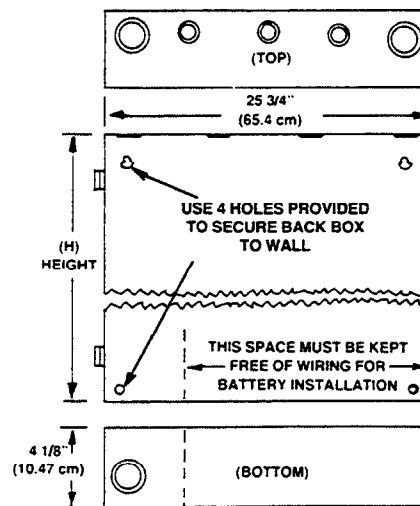

Figure 6 – Back Box Mounting Instructions
13. Mount the back box as shown in Figure 6.